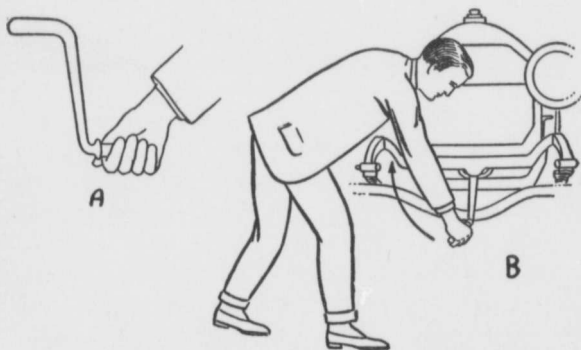

Fig. 7.—A and B. The proper way to crank a car.
(1) Where a self-starter is used all you need to do is to push down on the *starting switch* with your foot and it will do the rest.
(2) If your car is one that you have to crank by hand, grasp the handle of the crank with your right hand and keep your thumb and fingers on the same side and in the same way as shown at A in Fig. 7, and stand